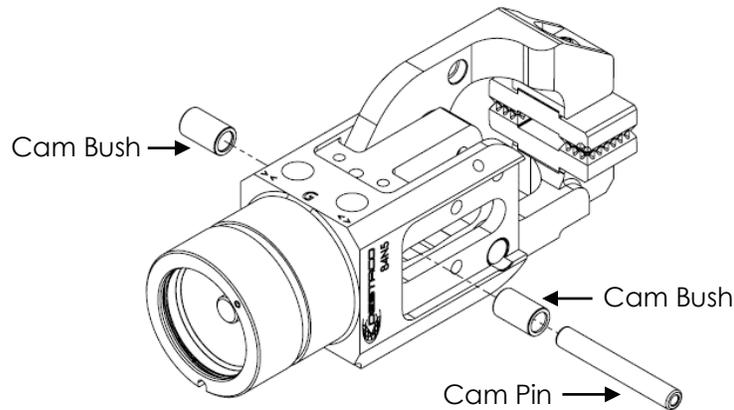

Fig.38
- Remove the Cam Pin and Cam Bushings, which passes thru the jaws and the clevis cam driver (see Fig.38).